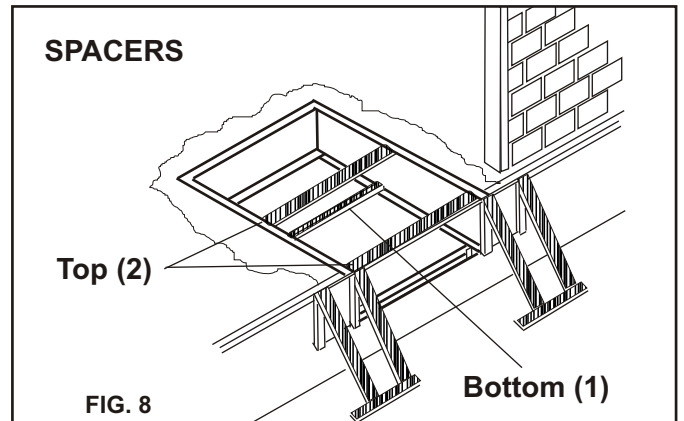

FIG. 8
3. Form the front of the dock face and cross brace the Pit Kit panels (see FIG. 8). This will prevent bowing of the panels under the weight of the wet concrete. Slowly pour the concrete to form the pit walls. Do not pour the concrete fast. Ensure the J-hooks are securely embedded in the concrete. For Hydraulic Docks, it is necessary to install conduit(s) for electrical and possibly hydraulic lines - see BLUE GIANT pit dimension drawings. Allow sufficient cure time for the concrete then remove forms.